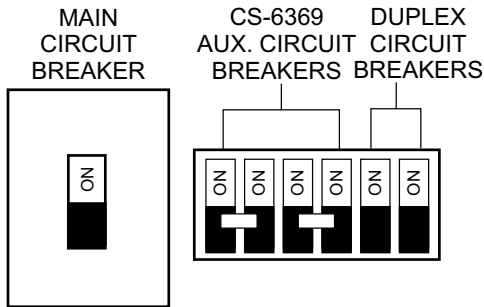

Figure 48. Main, Aux. and Duplex Circuit Breakers (ON)
12. Place the **Main, Aux.** and **Duplex** circuit breakers in the **ON** position (Figure 48).